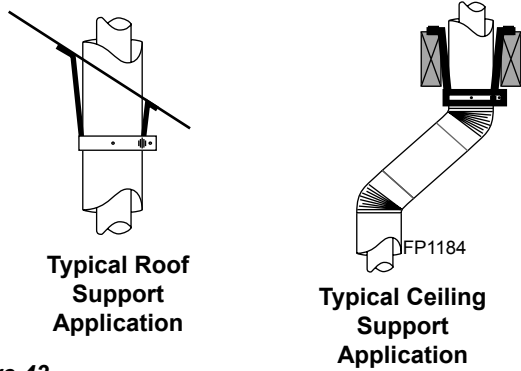
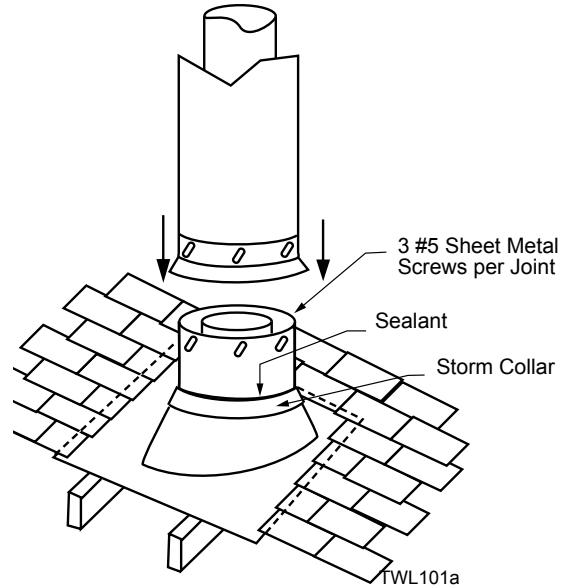

Figure 43 - Venting Supports
Figure 45 - Roof Flashing
- For the minimum height of the vent above the highest point of penetration through the roof refer to *Figure 43*.
7. Install roof support (*Figure 43*) and roof flashing making sure upper flange is below the shingles. *Figure 45*
8. Install appropriate pipe sections until the venting is above the flashing. *Figure 43*